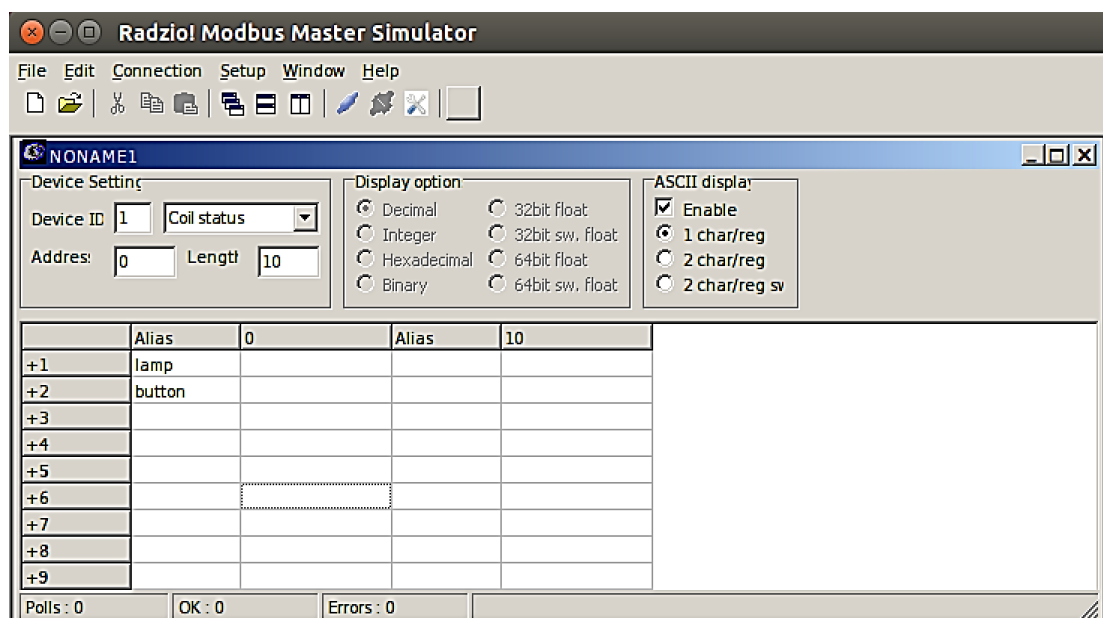

Figure 7. Console interface
4. In the “+2” row (MODBUS address 0 which is the output address %QX0.1), enter “button” in the Alias cell (Figure 7).